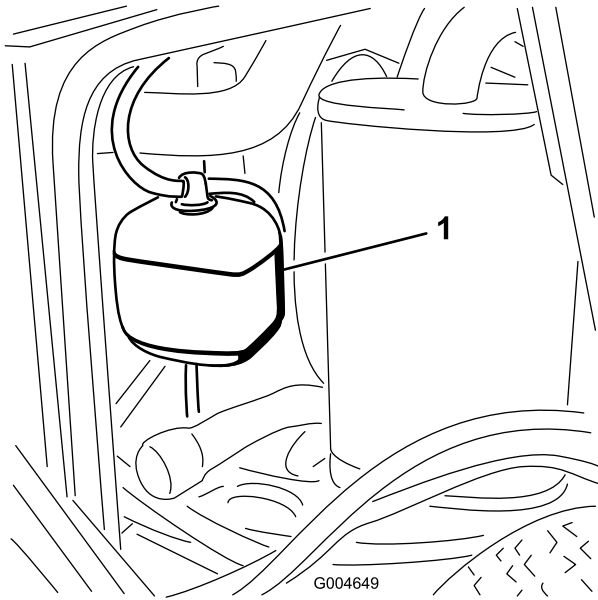

Figure 46
1. Check the level of the coolant in the expansion tank (Figure 46).